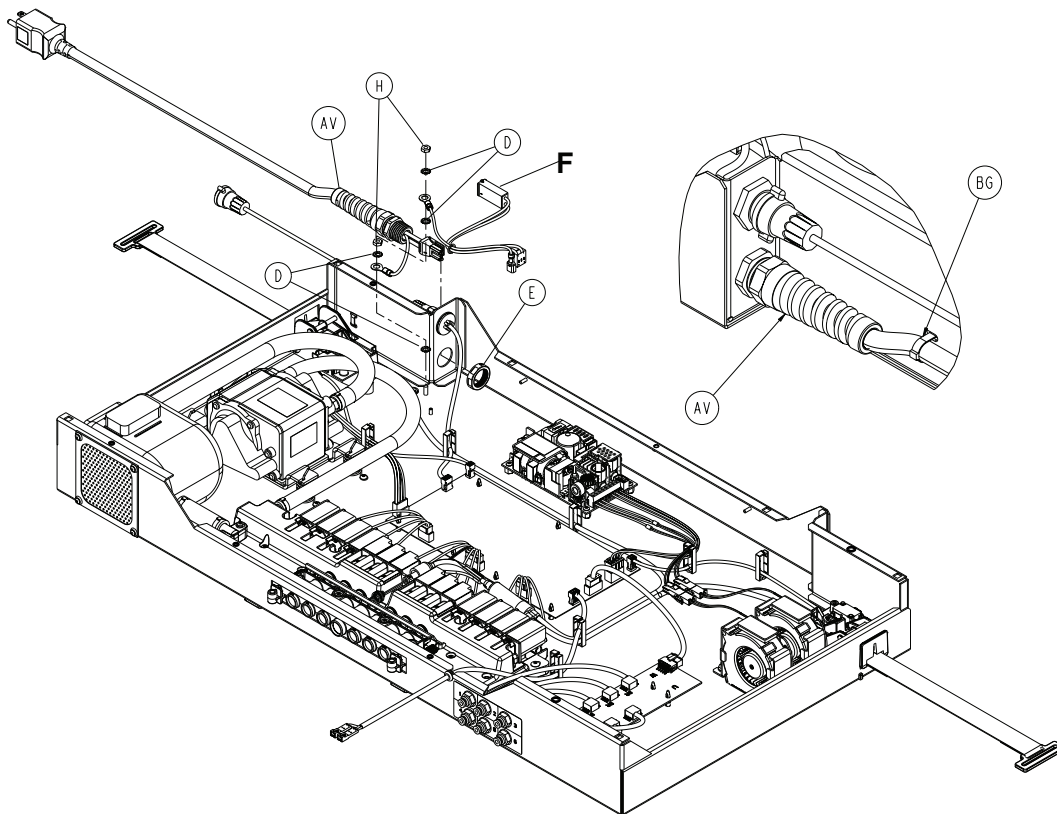

Figure 15 – Power cord
2. Using diagonal pliers, cut the cable tie (BG) (Figure 15) and discard.
3. Using a 5/16" Nut driver, remove the two nuts (H) and four star washers (D) that secure the power cable ground connector (Figure 15). Save the nuts and star washers.
4. Using a 1" combination wrench, remove the nut (E) that secures the power cord strain relief to the foot box.
5. Feed the ground through the plastic retaining nut (E) (Figure 15).
6. Disconnect the power cord quick connect (F) from the power supply (Figure 15).
7. Feed the two pin connector through the nut (E) (Figure 15).
8. Remove and discard the power cord (AV) (Figure 15).